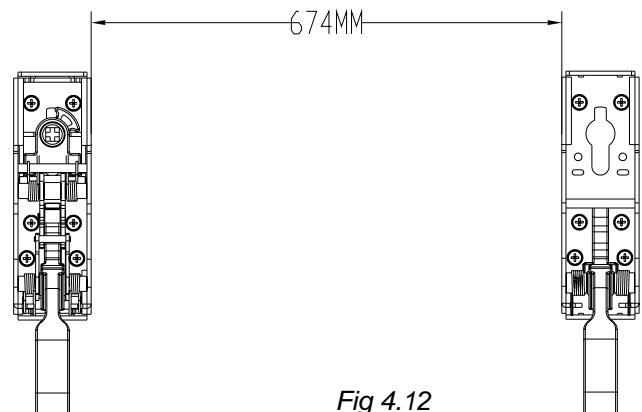

Fig 4.12
- 13) Screw End Box on the hinge side of the door at the distance shown in **Fig 4.12**, ensuring the box is vertically aligned and in line horizontally with the Panic Bolt Box. If the door is too narrow, remember to leave a 10mm gap between end box and door frame. Mark through and secure into position.
- 14) Place End Box blanking cover (item 22) onto bottom of metal base, depress arm and fit End Box cover. Secure with screws.
**Note: If the distance in Fig 4.12 is less than 674mm, remove this difference from the bar**